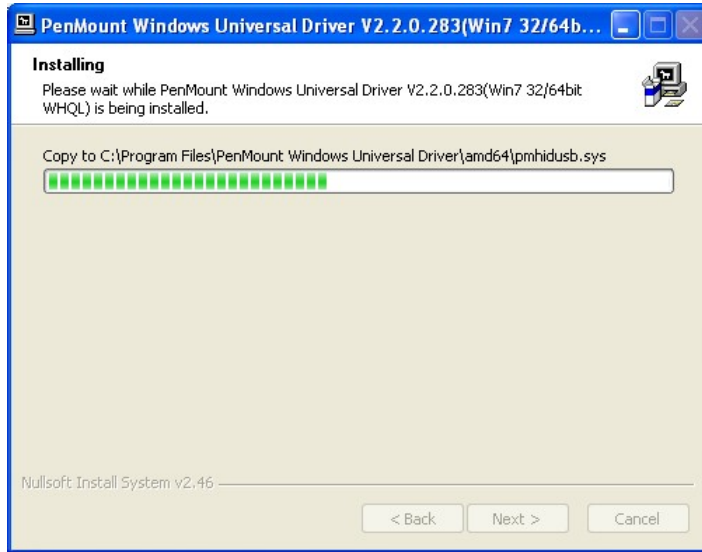

Figure 5-4: Installation Starts
Step 10: The installation of the program begins. See **Figure 5-4**.